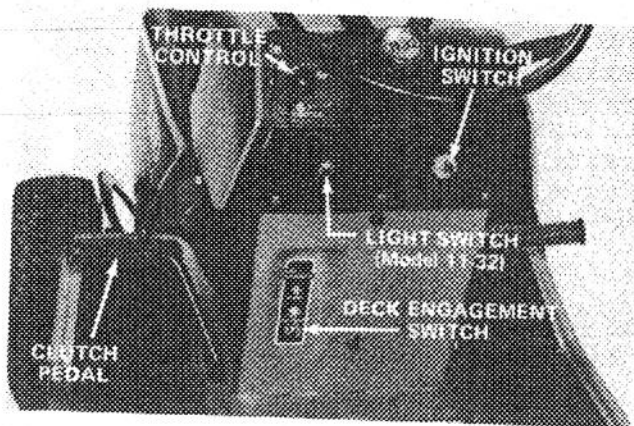
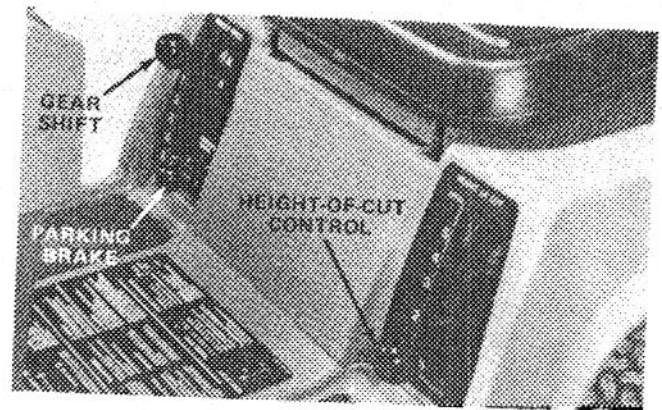

Figure 14
Figure 15
**Clutch Pedal** (Fig. 14) — Foot operated clutch pedal is used in conjunction with the gear shift. Clutch must be fully depressed when shifting gears so that friction drive plates are separated on clutch assembly.
**Throttle Control** (Fig. 14) — Throttle control connects to and operates carburetor mounted throttle and choke. Control has three positions: IDLE, FAST and CHOKE. The control must be pushed slightly to the right and forward to obtain CHOKE position.
**Ignition Switch** (Fig. 14) — Switch is part of battery ignition system, and it has three positions: OFF, ON and START. Key automatically returns to ON position from START position when released after engine starts.
**Light Switch** — Model 11-32 only (Fig. 14) — Two position switch for actuating headlights. Lights
**Deck Engagement Switch** (Fig. 14) — Toggle switch (Pull out and up to engage) releases blade brake and engages electromagnetic clutch to drive cutter blade.
**Brake Pedal** (Fig. 14) Foot operated pedal, which when depressed, actuates a disc brake assembly at the side of the transmission. Clutch pedal should also be depressed while braking to achieve maximum brake effectiveness.
**Parking Brake** (Fig. 15) — Parking brake is used in conjunction with standard brake assembly. When brake pedal is depressed and parking brake lever is pulled upward, a latch plate secures the brake assembly in the engaged position preventing the machine from moving.
**Gear Shift** (Fig. 15) — Transmission has five forward speeds, neutral and reverse, and has an in-line shift pattern. An interlock switch, which prevents
**Height-of-Cut Control** (Fig. 15) — Height-of-cut control varies the cutting height from 1 1/2 to 3 3/4 inches (38 to 91 mm) in five increments.
3. To release the parking brake, depress brake pedal (Fig. 14), and push parking brake lever (Fig. 15) down to return it to its disengaged position. Release brake pedal slowly.
1. Assure the deck engagement switch is in DISENGAGE position (Fig. 14).
2. Move height-of-cut control (Fig. 15) into desired setting.